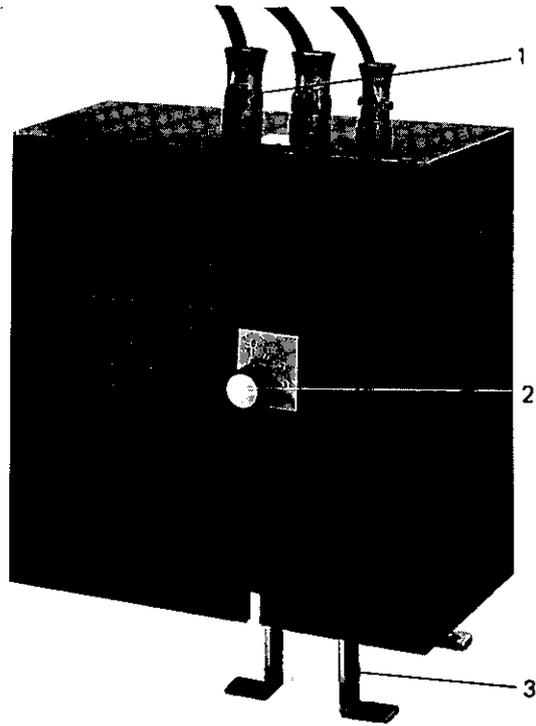

Fig. 3 EHS 110
Inner conductor to the centre tapping (secondary) of the filament current transformer T1 (screw M5); outer conductor (sheathing) to the earth screw (Fig. 3, item 3).